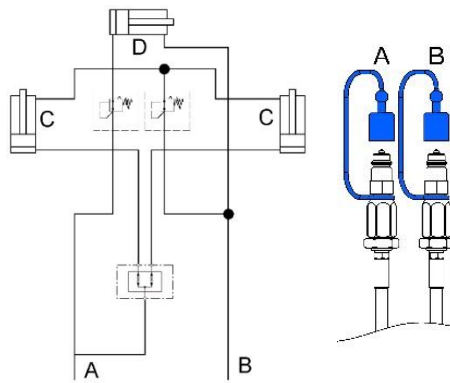

Figure 12: Hydraulic diagram, flow adjustment
- The cylinders are controlled with hydraulic couplings A and B (Figure 12).